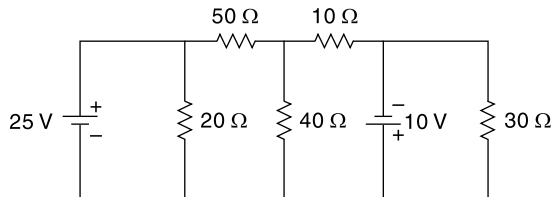

Fig. 4.80 Circuit of Ex. 4.54
4.54 Find the current through 40 Ω resistor using Superposition theorem in Fig. 4.80.